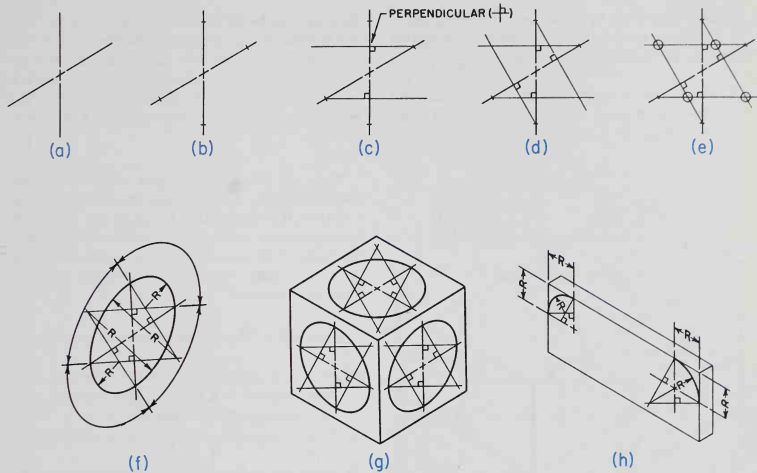

Fig. 8-7. Steps in drawing isometric circles and arcs.
1. Locate and draw the center lines of the circle, Fig. 8-7 (a).
lines, measure the radii (plural form of radius), Fig. 8-7 (b).
3. From these radius points, draw construction lines which are perpendicular (90 deg.) to the other center line, Fig. 8-7 (c) and (d).
4. The intersections of these lines are the four centers for the isometric circle or ellipse, Fig. 8-7 (e).
5. Draw the isometric circle as shown in Fig. 8-7 (f). Circles in all three isometric planes are shown in Fig. 8-7 (g).
6. Draw arcs in the same manner as circles, using only the portion of the circle required, Fig. 8-7 (h).
To draw circles and arcs on oblique surfaces, follow the same procedure as given for drawing these in isometric views, Fig. 8-7. Only the angle of the center lines differs.